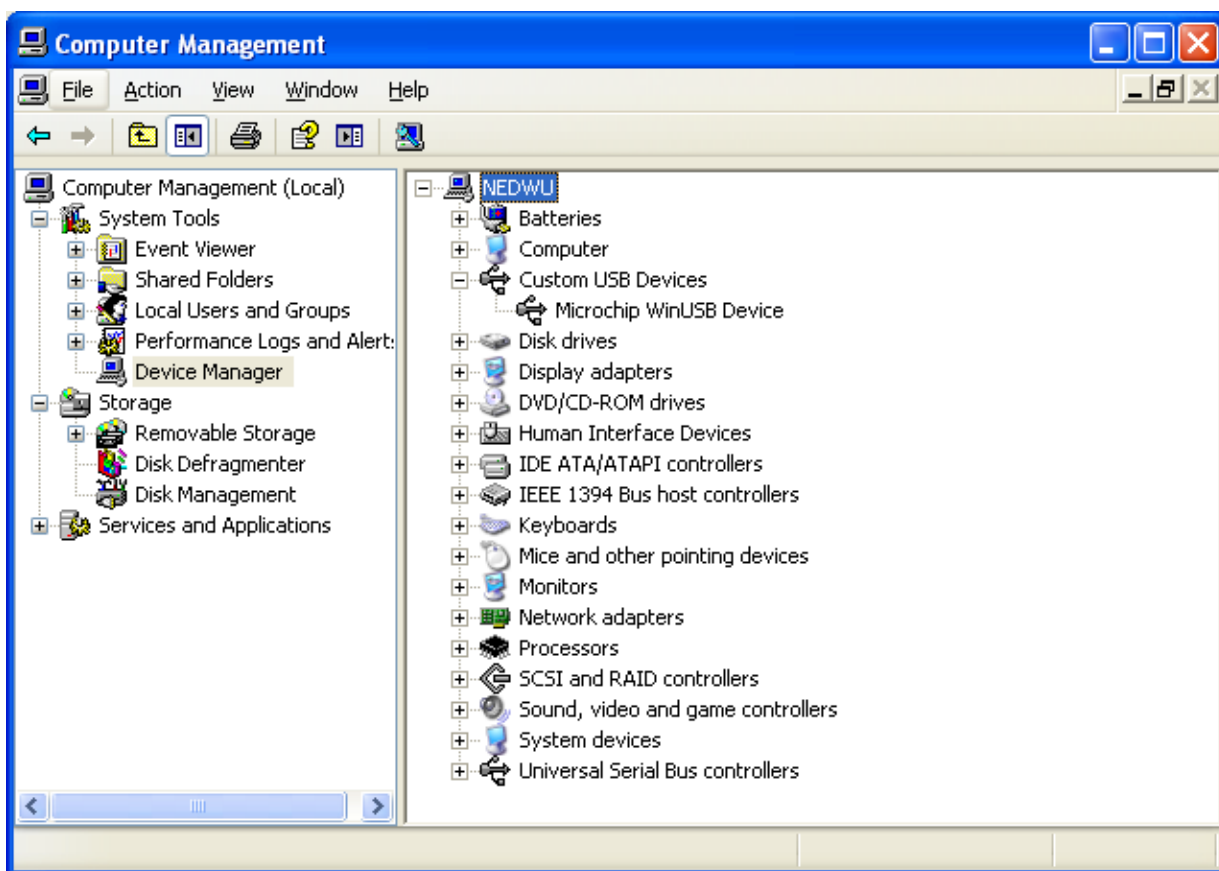

Figure 15. “Computer Management” window.
- n. After the USB driver installed successfully, the “**Computer Management**” window will show as Figure 15.